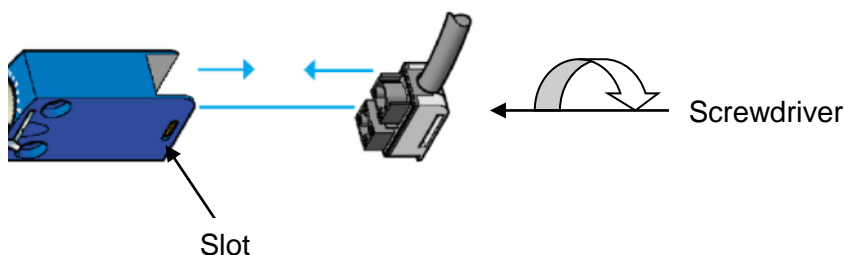

Fig. 5.1
2. For an easier handling, it is possible to remove the connector of indicator switches Fig.5.1. Unlock the connector by insert the screwdriver behind the connector and turn it a 1/4 of a turn counter-clockwise and then insert the screwdriver into the slot at the side to release the connector.